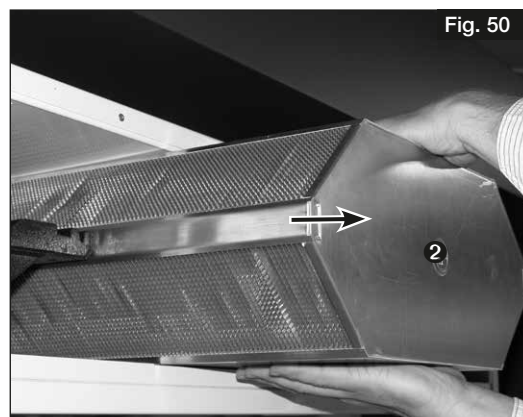

Fig. 50
3. Carefully remove the heat exchanger **2** from the unit (see Fig. 50). Ensure that the fins are not damaged!